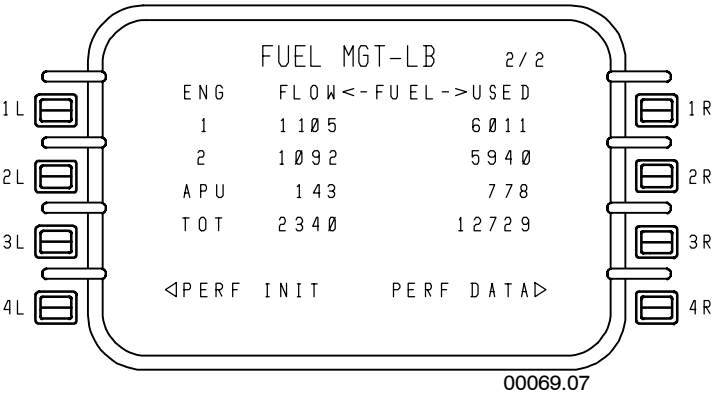

Figure 5-49
- **FUEL MGT 2/2** - Figure 5-49 shows the individual and total engine fuel flow as well as fuel used. APU fuel flow is not available on all aircraft.